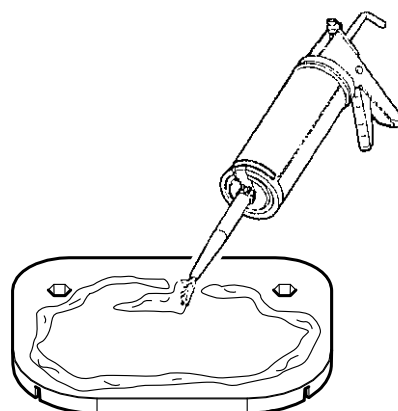

Fig. 8
4. Apply some sealant like SIKAFLEX®252 on the plates (**Fig. 8**).